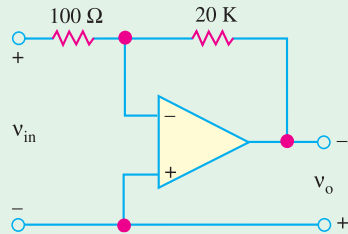

Fig. 68.39
1. Determine the maximum allowable value of v_{in} for the circuit shown in Fig. 68.39. Assume that the gain of the amplifier is 200. (40 mV)